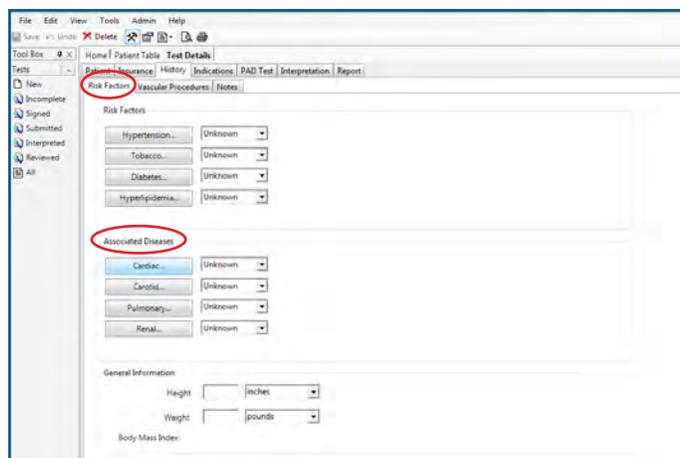

FIGURE 1.7 - Risk Factors and Associated Diseases
6. Click the History tab. Enter any Risk Factors and Associated Diseases on the Risk Factors tab (Figure 1.7).